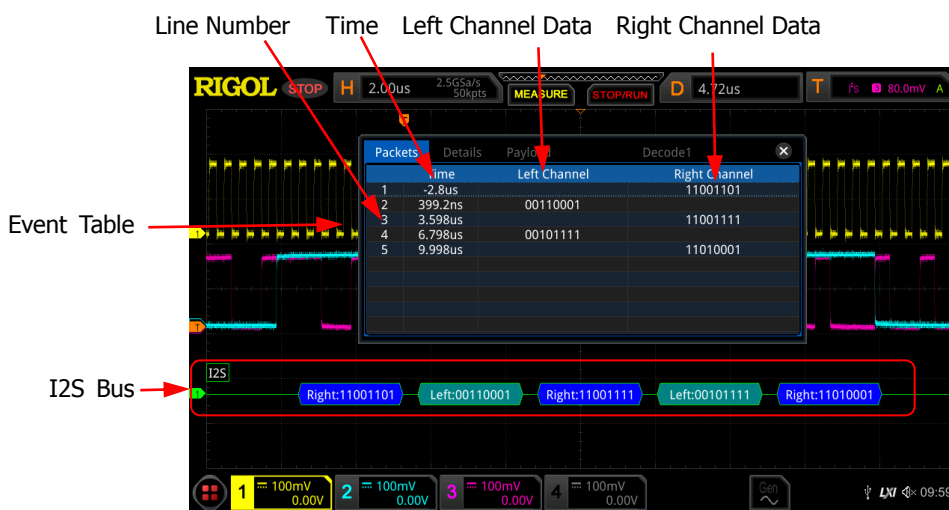

Figure 11-14 I2S Decoding Event Table
- Open or close the event table: Click **Event Table** continuously to enable or disable the event table. When you enable the event table, the following figure is displayed, as shown in Figure 11-14. You can click on the icon  at the upper-right corner of the table to close the event table. Besides, when the operating status is "STOP", select a specified line and view the corresponding decoding information.